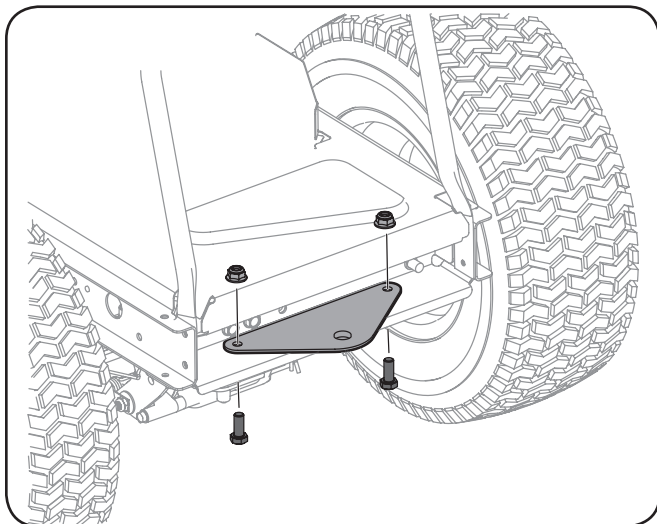

Figure 3-11
2. Position the hitch plate, packed with the loose parts, with the flat side up as shown in Figure 3-11. Secure using the two bolts and hex nuts previously removed.